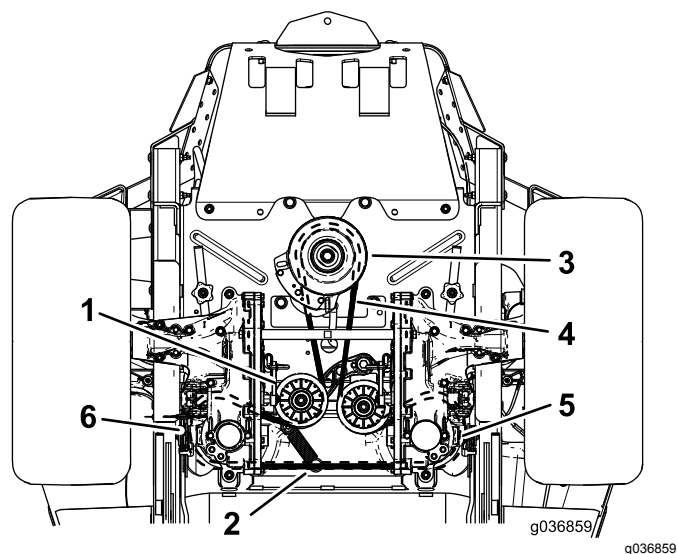

Figure 67
4. Raise the machine and support it with jack stands (Figure 67).
6. Remove the idler spring from the post (Figure 67).
8. Install the new belt around the engine pulley and the 2 hydraulic-pump pulleys (Figure 67).